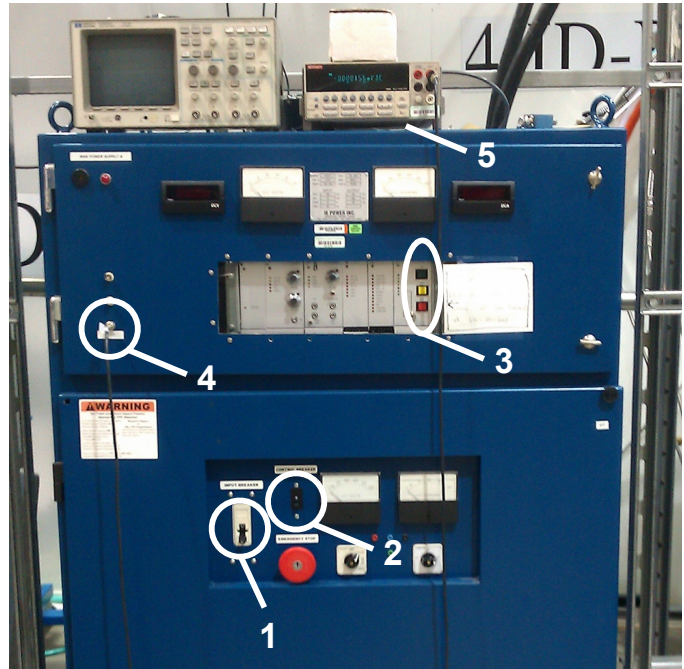

Figure 1 Raw power supply
2.) Once the water is on, the next step is to turn on the two raw supplies (see Figure 1). In order to start the supply, first turn on breaker labeled 1 in the figure followed by breaker 2. The two read LED displays at the top will run through a quick startup and then read 0. Go to the section labeled 3, press the YELLOW button, wait 10 secs and then press the GREEN button. If any alarms sound, you can shut the supply and alarms off with the RED button. This supply is connected to two interlocks: water flow (requires both water pumps on) and current leakage to ground. The BNC labeled 4 can be used to monitor the ground current and if connect to the DMM (5), can be seen on the ES1 display in the computer. The supply will fault when this reads -3.0 V, which corresponds to 60 mA. Both supplies turn on the same way.